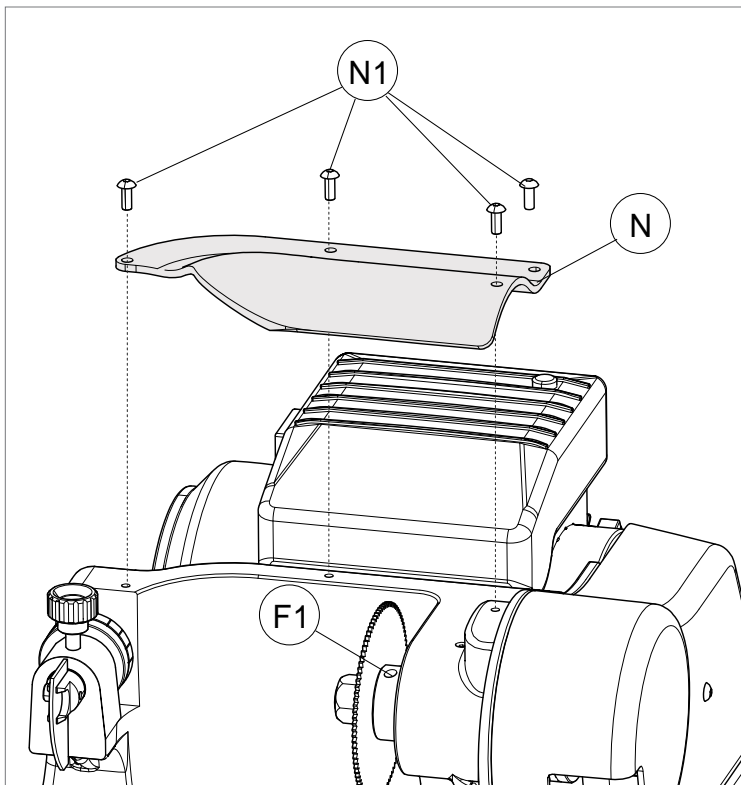
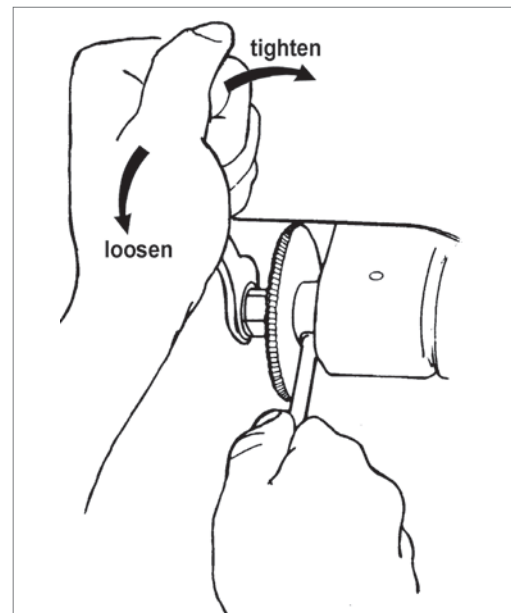

Fig. 35
Fig. 36
- 1) Remove the cutter locking screw (N1) and remove the cutter protective shield (N) (Fig. 35).
- 2) Slot the locking rod (provided) into the hole (F1) of the cutting tool shaft (Fig. 35 e Fig. 36).